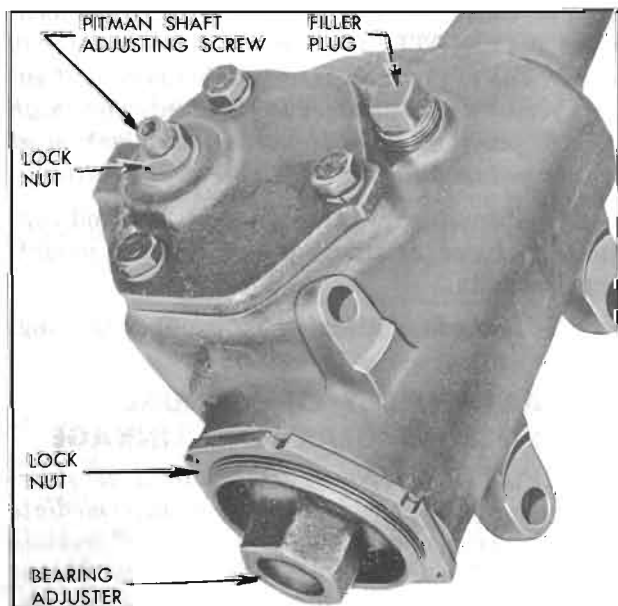

Figure 8-3—Steering Gear Adjustments
6. Loosen worm thrust bearing adjuster lock nut. Turn thrust bearing adjuster until a slight load is felt when turning steering wheel near extreme positions, then tighten lock nut. See figure 8-3.